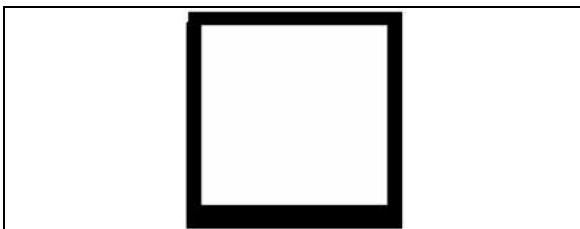

FIGURE 45 : SIDE PANEL INSTALLATION – SIKa 206 G+P APPLICATION
7. Apply Sika 206 G+P on side panel as shown in figure 45;